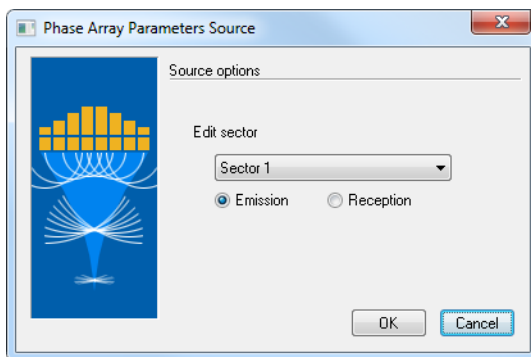

Figure 4-12 The Phased Array Parameters Source dialog box
- a) In the **Phased Array Parameters Source** dialog box (see Figure 4-12 on page 239), select the sector to be edited, then select **Emission** and click **Ok**. The **Advanced Calculator** will open with the corresponding Pulser configuration.
- a) In the **Phased Array Parameters Source** dialog box (see Figure 4-12 on page 239), select the sector to be edited and then select **Emission** and click **Ok**.
- a) In the **Phased Array Parameters Source** dialog box (see Figure 4-12 on page 239), select the sector to be edited and then select **Reception** and click **Ok**.